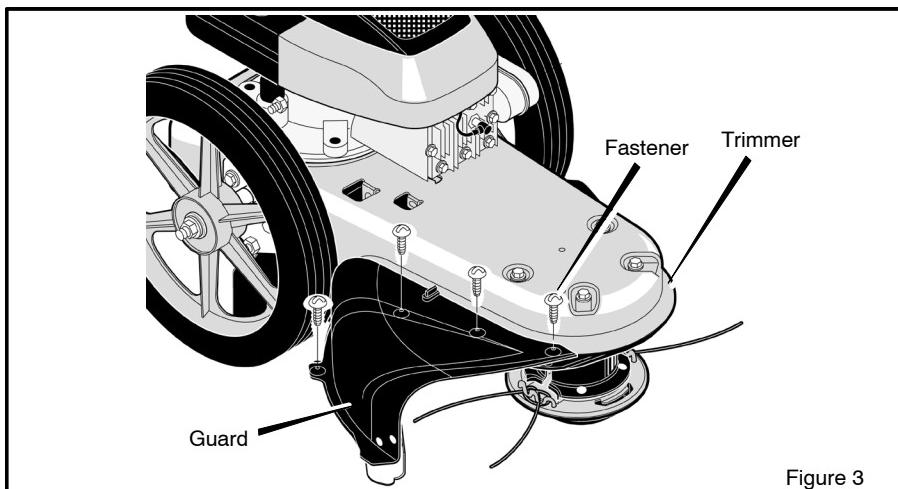

Figure 3
1. Attach the **guard** to the machine with the four **fasteners** as shown. See Figure 3.